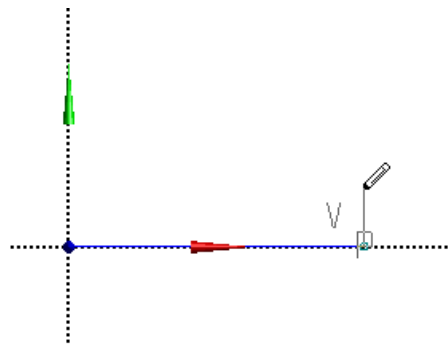

Figure 3-22 Specifying the endpoint of line 2
10. Move the cursor vertically upward; the symbol of Vertical constraint (**V**) is displayed. Click to specify the end point of the line; line 2 is drawn, as shown in Figure 3-22.